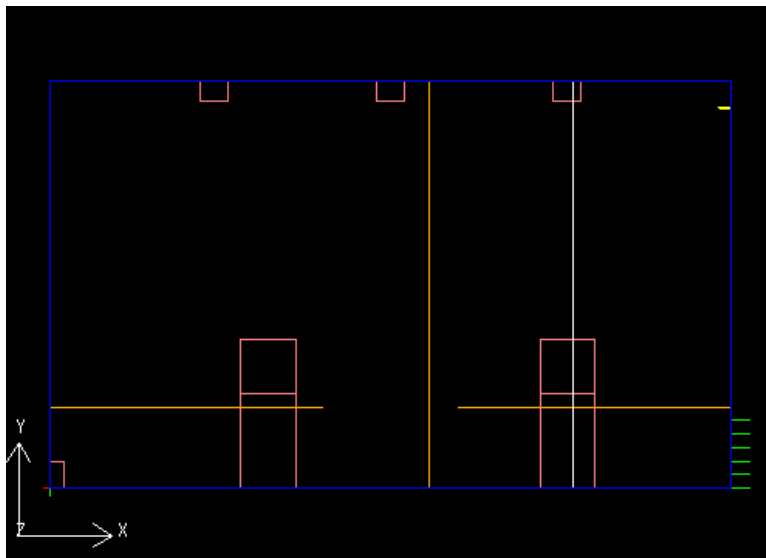
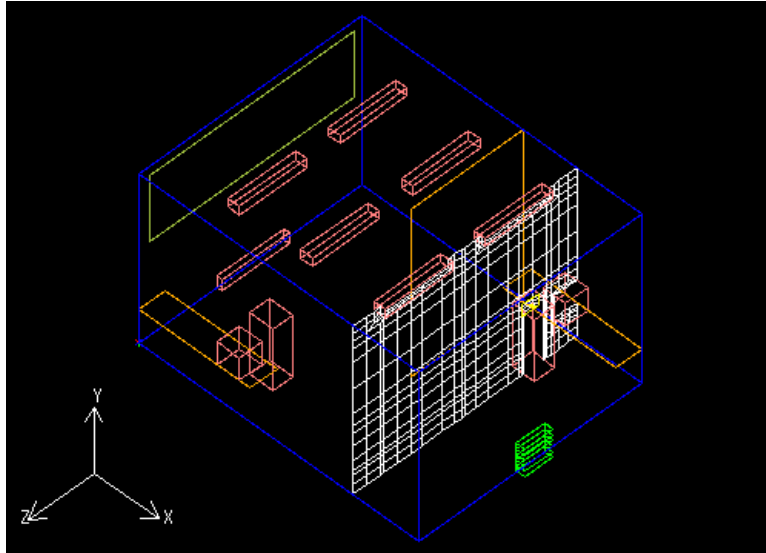

Figure 26.9.6: Specification of a Vertical Cross-Section
Figure 26.9.7: Isometric View of Cross-Sectional Mesh Display
- (a) Use the **Orient** menu to specify the desired orientation. If you require a horizontal or vertical plane through your model, choose the orientation such that the plane of the display screen is perpendicular to the desired mesh-display plane. For example, if you want to display the mesh on a y - z or x - y plane, choose **Orient positive Y** as the orientation so that the display-screen plane is the x - z plane (see Figure 26.9.6). If you want to specify the plane by selecting three points on it, orient your model as desired.
selected point. In Figure 26.9.6, the vertical mesh plane is indicated by a vertical line passing through the model. Figure 26.9.7 shows an isometric view of the same mesh plane.